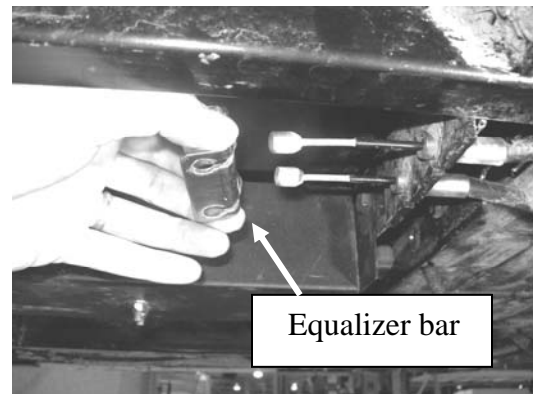

Fig 13 – Removing equalizer bar
- b. Remove rubber plugs in equalizer bar then remove bar from cables. (see Fig 13)